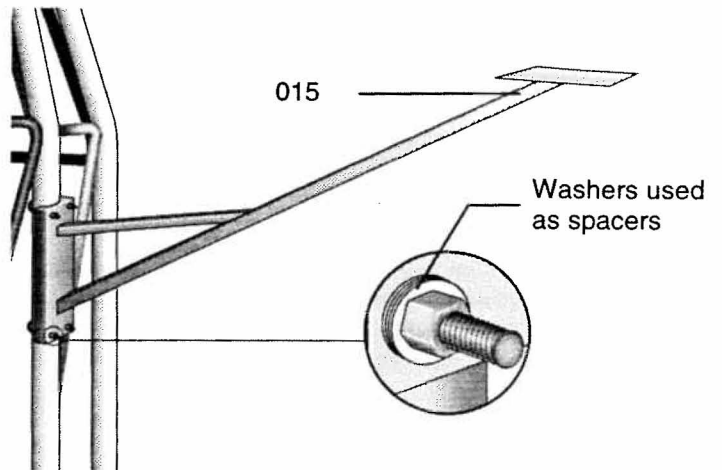

FIGURE 4-4. 015 Pyranometer Mounting Arm
Attach the 015 Pyranometer Mounting Arm to the mast as shown in Figure 4-4.
1. Position the 015 on the south facing lower leg (northern hemisphere), just below the tapered top section. Secure the 015 using the two U-bolts and nuts provided. Three spacing washers (not included) are required between the base and each nut (see Figure 4-4).